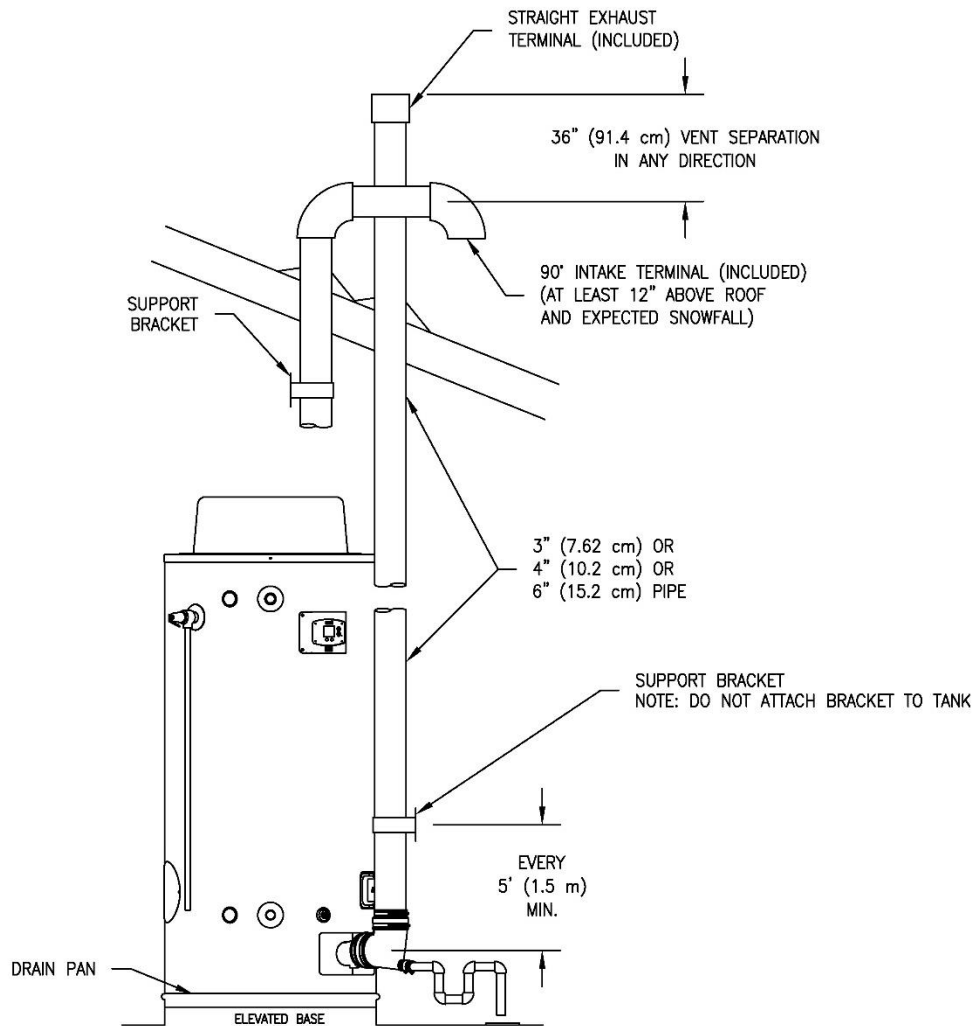

Figure 13 – Typical Vertical Power Direct Vent System Installation
2. Install the exhaust vent and air intake plastic pipes as shown in Figure 13. Make sure that the installation meets the local codes and/or The National Fuel Gas Code ANSI Z223.1 (Latest Edition) or CGA/CAN B149 Installation Code.